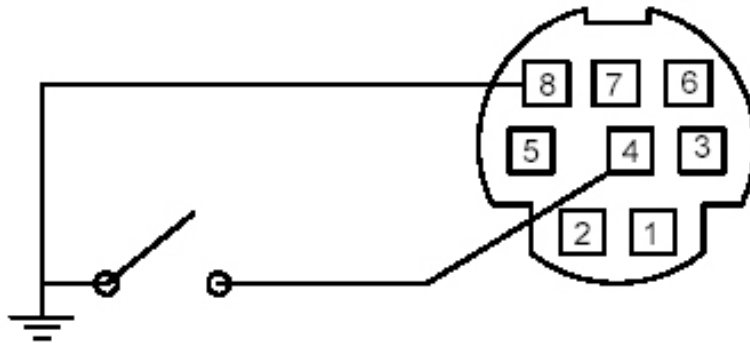

Figure 8. Proper Set Up for Remote Tare on Meters (Momentarily ground Pin 4 to Tare)
**Note:** A remote tare can be achieved by momentarily grounding pin 4 to tare as shown in Figure 8 on page 15.